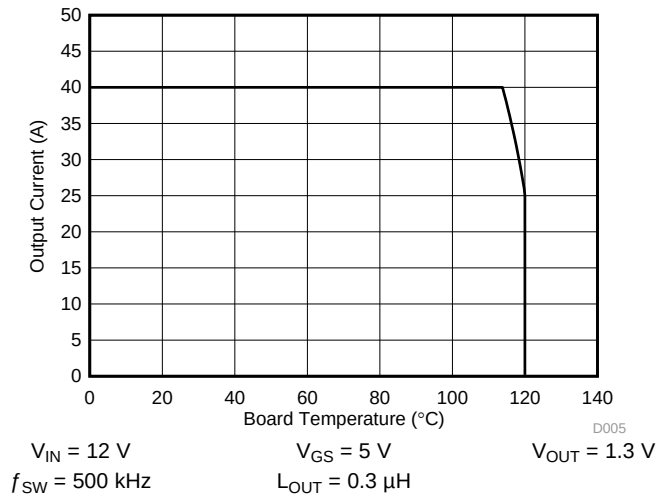

图 3. Typical Safe Operating Area (SOA)
$T_J = 125^\circ\text{C}$, unless stated otherwise. The typical power block system characteristic curves and 图 3 are based on measurements made on a PCB design with dimensions of 4 in (W) $\times$ 3.5 in (L) $\times$ 0.062 in (H) and 6 copper layers of 1-oz copper thickness. See Application and Implementation section for detailed explanation.
The SOA curves in the CSD86356Q5D data sheet provides guidance on the temperature boundaries within an operating system by incorporating the thermal resistance and system power loss. 图 3 outline the temperature and airflow conditions required for a given load current. The area under the curve dictates the safe operating area. All the curves are based on measurements made on a PCB design with dimensions of 4 in (W) $\times$ 3.5 in (L) $\times$ 0.062 in (T) and 6 copper layers of 1-oz copper thickness.